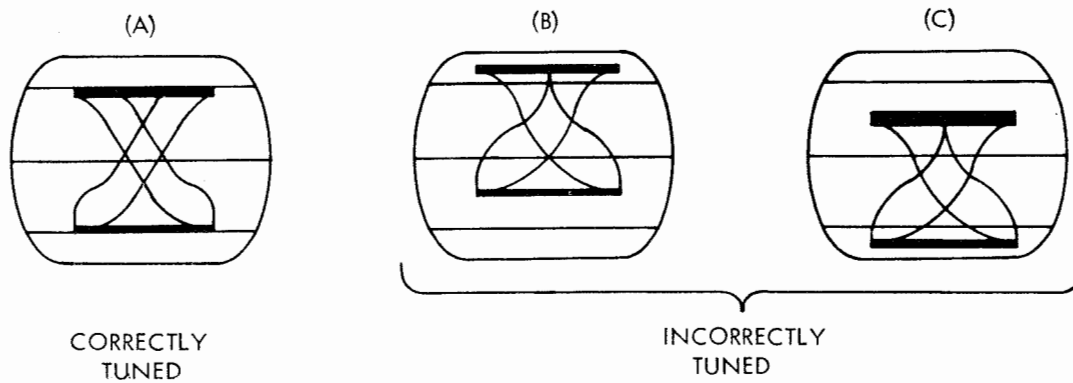

Figure 3-2. Tuning Indicator Patterns
(1) BEFORE USE. - Ascertain if equipment is connected for diversity or single-receiver operation. Allow the associated receivers and teletype printer(s) to warm up (see applicable technical manuals). Turn the converter POWER switches to the On (up) position and allow a five minute warmup period.
(2) DURING USE. - Adjust converters and associated equipment as directed in paragraph 3-2g(1) for single-receiver operation or paragraph 3-2g(2) for diversity operation.
(3) SECURE. - To secure the AN/URA-17D, turn POWER switch on each converter to Off (down) position.
d. INDICATOR PRESENTATIONS. - Figure 3-2 illustrates the tuning indicator displays obtained when the associated receiver is properly tuned (A) and when the associated receiver needs retuning (B or C).
(1) SINGLE-RECEIVER OPERATION. - The need for retuning the associated receiver to compensate for frequency drift can be determined by observing the converter tuning indicator pattern (figure 3-2). If the pattern departs from that in (A) of figure 3-2, retune the receiver.
(2) DIVERSITY OPERATION. - Retuning the associated receivers to compensate for frequency drift is the same as for single-receiver operation. However, to prevent interruption of communication while one of the receivers is being tuned, set the FUNCTION switch of the associated converter to TUNE. During retuning, the other receiver-converter combination will operate the teletype printer. After the receiver has been tuned, set the converter FUNCTION switch to DIVERSITY.
(2) INDICATOR PRESENTATION. - Refer to figure 3-2 for tuning indicator presentations during receiver tuning.
(1) SINGLE-RECEIVER OPERATION. - Either converter may be adjusted for single-receiver operation, as follows:
Step 7. Tune receiver to desired rf signal. Set receiver bandwidth to approximately 800 cps for narrow-shift signals or to approximately 3 kc for wide-shift signals. Tune receiver until strongest beat-note is heard in headphones plugged in receiver headphone jack. Adjust receiver tuning for symmetrical, vertically centered pattern on tuning indicator (as in (A) figure 3-2). There are sometimes two receiver tuning positions that give a proper tuning indication; always select the stronger. Adjust audio output of receiver to 60 milliwatts.
(2) DIVERSITY OPERATION. - Each converter of the AN/URA-17D is adjusted for diversity operation as follows:
- Step 7. Tune associated receiver to desired rf signal. Set receiver bandwidth to approximately 800 cps if narrow-shift signals are being received or to approximately 3 kc if wide-shift signals are being received. Tune receiver until strongest beat-note is heard in headphones plugged in receiver headphone jack. Adjust receiver tuning for a symmetrical, vertically centered pattern on tuning indicator (as in (A) figure 3-2). There are sometimes two